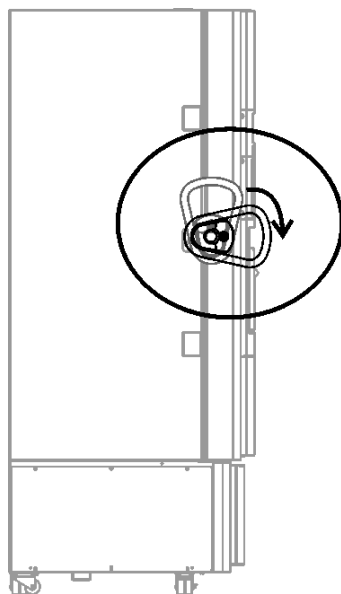

Figure 4-2. Freezer handle
1. Unlatch the handle of the freezer (Figure 4-2).